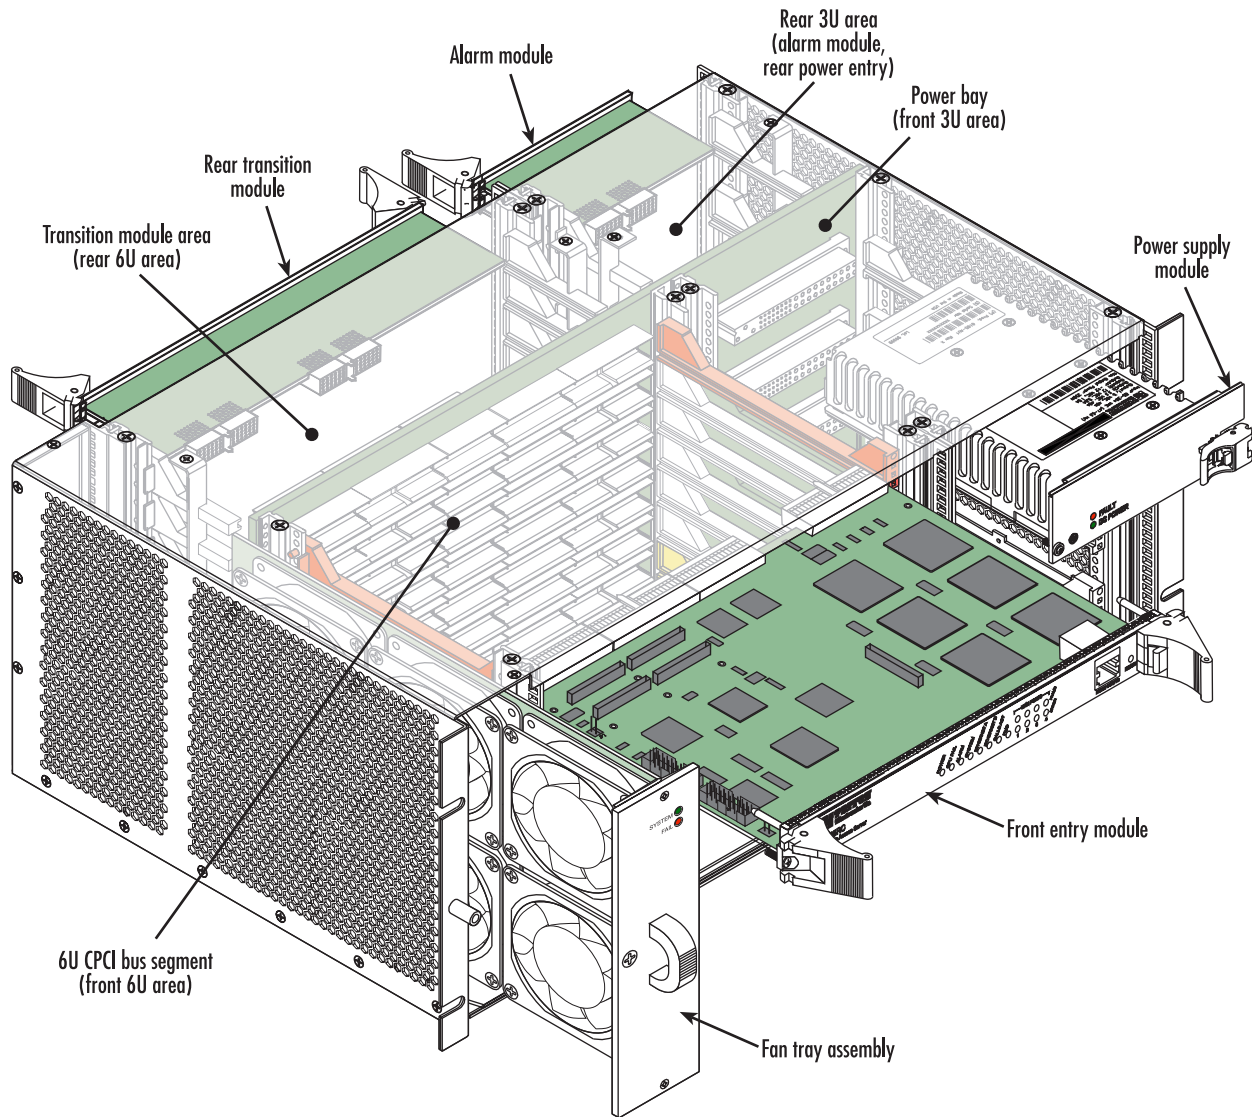
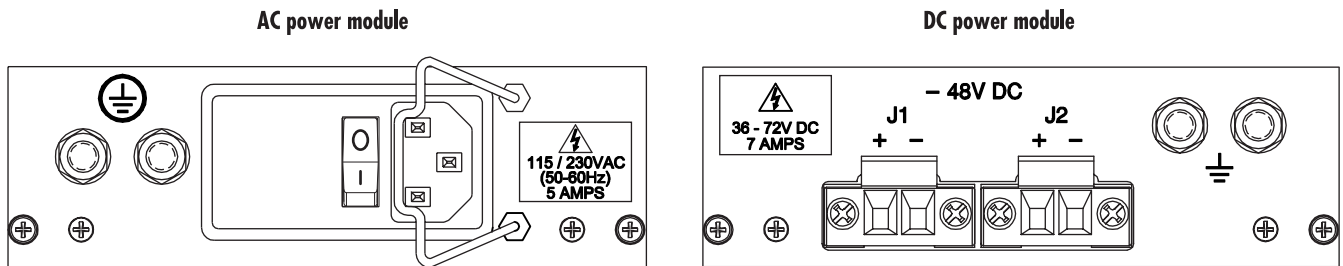

Figure 2. Model 6476 ForeFront FullPipe Chassis
Figure 5. AC and DC rear power entry modules
There are eight 6U x 160mm slots (a full CPCI bus segment) at the front of the chassis (see figure 2). Front-entry ForeFront modules, in accordance with PICMG 2.0 R2.1 CompactPCI specifications, are plugged into these slots.
- A set of eight 6U slots for ForeFront transition modules (see figure 2 on page 19). These modules typically contain cable connections for I/O interfaces such as T1/E1 trunks, optical fiber trunks, DSL lines, Ethernet, etc.
- Power input modules—either Patton Model 6112 (DC) or Patton Model 6117 (AC) (see figure 5 on page 21). These modules provide power input to the power supplies in the front of the chassis (see figure 2 on page 19). Each input module provides input for two power supplies. The following configurations are possible: